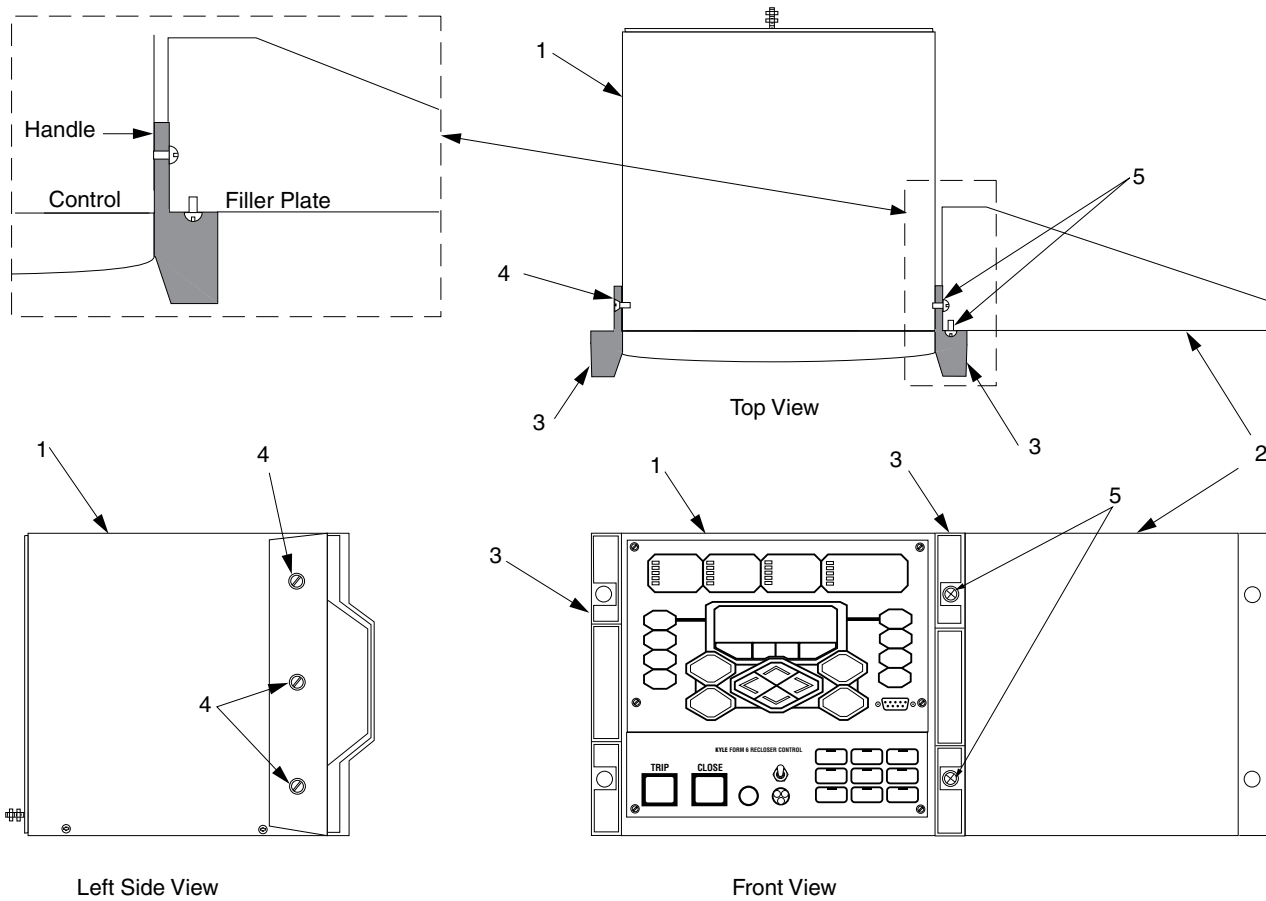

Figure 5. Form 6 Recloser Control Double Rack—Single Mount Handle and Filler Plate Attachment
These instructions apply to the attachment of two handles and one filler plate to one Form 6 Recloser Control prior to mounting it in a standard 19" rack (Figure 5).
Table 3. KME6-1804 Form 6 Recloser Control Single Rack Mount Handle and Filler Plate Attachment Parts List (Refer to Figure 5.)
3. Orient the handles as illustrated in the left side view in Figure 5.
8. Attach the handle (Item 3) and filler plate (Item 2) to the control using five #10-32 Pan Head Screws (Item 5) (Figure 5).